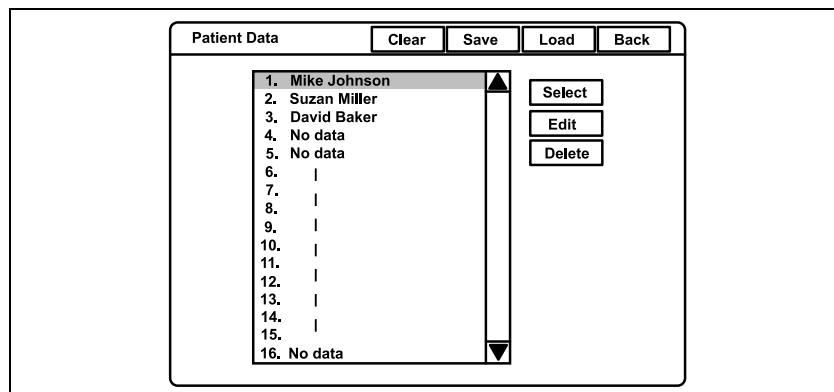

Figure 5.84
1. Press the “Shift” and “F3” keys together. The “Patient Data” menu appears on the monitor (see Figure 5.84).